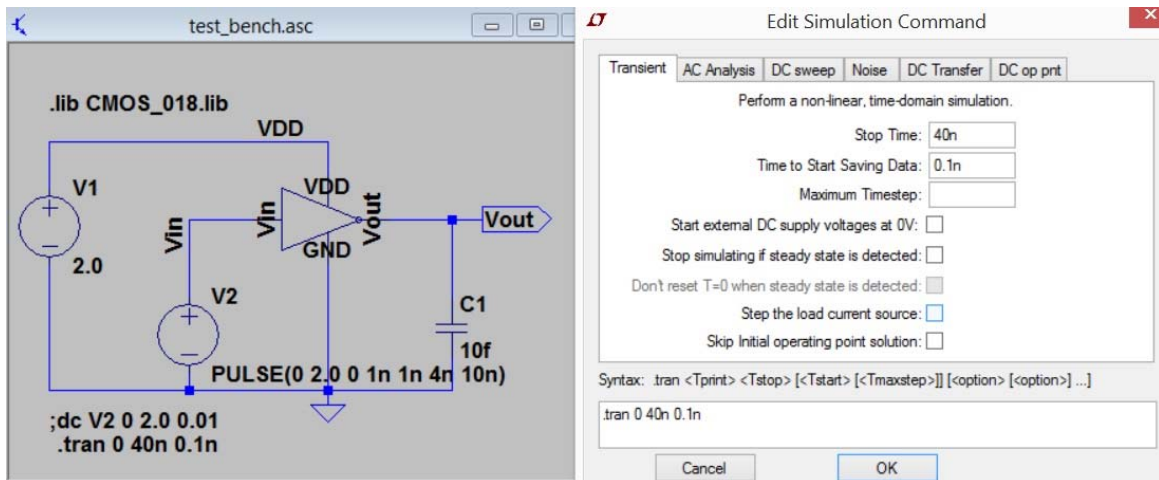

Figure 21. Command for transient simulation
- D. Click **OK** on the form and then **click the schematic window** to insert the command. The Edit Simulation Command and the schematic are shown in Figure 21.